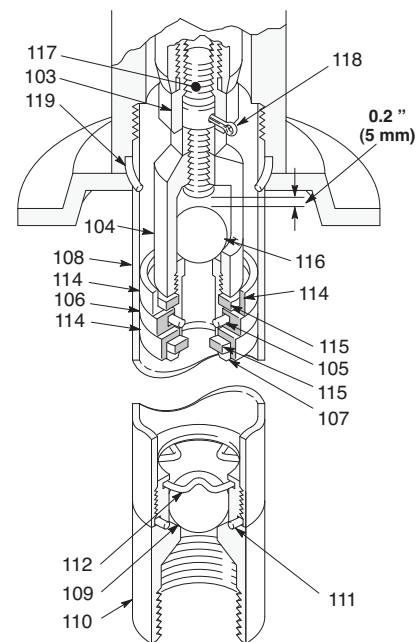

FIG. 14
Refer to FIG. 14.
3. Carefully inspect the smooth, inner surface of the cylinder (108) for scoring or irregular surfaces. Such damage causes premature packing wear and leaking, replace the part as needed.
4. Place the piston housing (104) in a vise. Unscrew the piston seat (107) and remove the packings.
5. Grease the new piston packings and stack them one at a time on the piston seat (107), making sure all parts face the way shown in FIG. 14. Install the ball (116). Apply liquid sealant to the male threads of the seat (107), and screw on the piston housing (104).
6. Remove the ball retainer (112) from the intake housing assembly by grabbing the open leg and pulling it toward the center of the housing. Inspect the ball (109) and seat, and replace as needed.
NOTE: If you removed or turned the next nut (103), check the ball travel. It should be 0.2 inches (5 mm), as shown in FIG. 14.
2. To reconnect the reciprocator and pump, screw the connecting rod (117) into the displacement rod (34). Install the cotter pin (118). Make sure the o-ring (119) in the bottom of the adapter (43) is in good condition. Push the cylinder up into the adapter, and engage the threads. Screw in the pump, using a strap wrench for the final tightening. (FIG. 14)